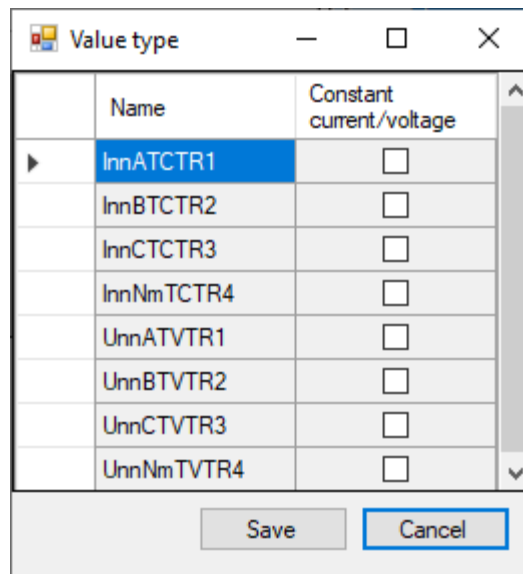

Figure 147 – **Value type** window
When you click button “...” (figure 146, item 1) the **Value type** window appears (figure 147).